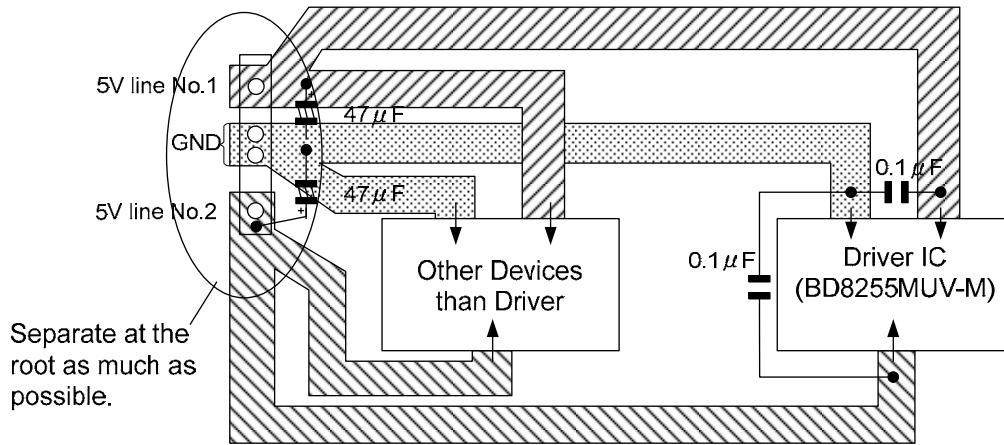

Figure 25. Pattern Example
- (1) Reduce impedance in wiring for the driver's 5 V power supply (SPRNF, SLRNF1, SLRNF2, PREVCC, AVN) and power GND (SPGND, SLGND, ACTGND) lines where high current flows. Make sure that they be separated from power supply lines of other devices at the root so that they do not have common impedance. (Figure 25.)